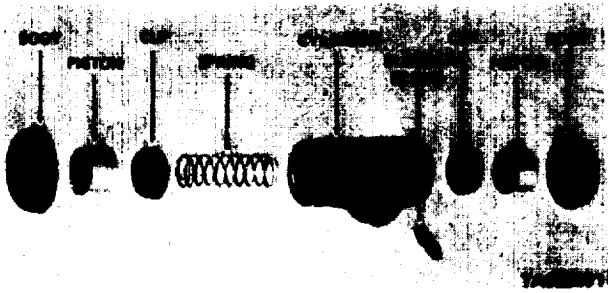

Figure 22-11. Wheel Cylinder (Disassembled View).
a. Disassembly (see figure 22-11).